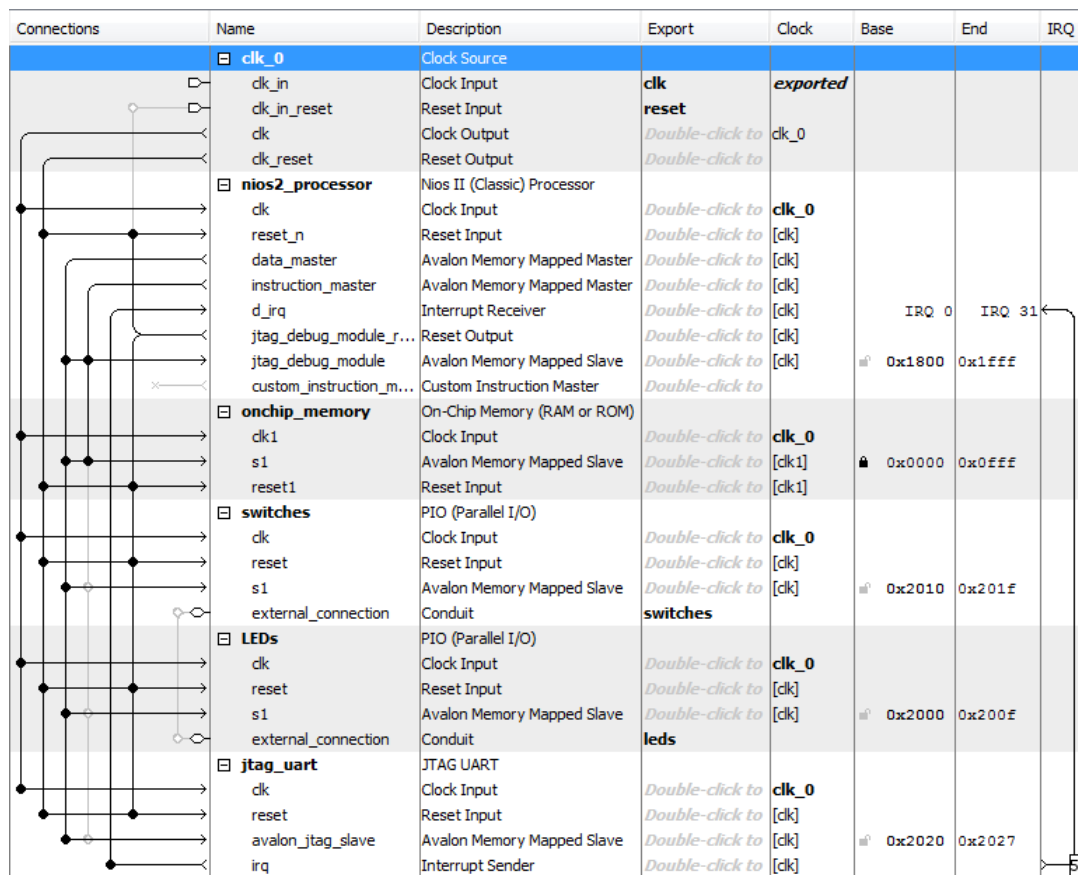

Figure 18. The complete system.
14. So far, we have specified all connections inside our *nios_system* circuit. It is also necessary to specify connections to external components, which are switches and LEDs in our case. To accomplish this, double click on Double-click to export (in the Export column of the System Contents tab) for *external_connection* of the switches PIO, and type the name *switches*. Similarly, establish the external connection for the lights, called *leds*. This completes the specification of our *nios_system*, which is depicted in Figure 18.